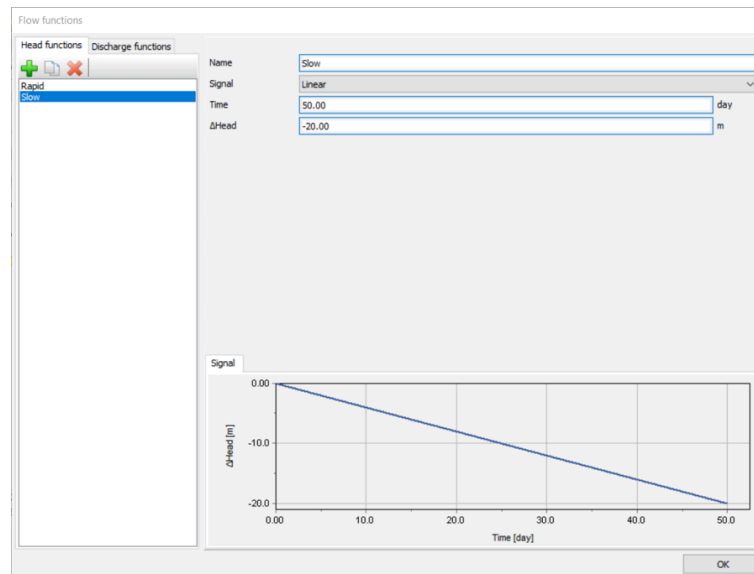

Figure 14–12: The flow function for the slow drawdown case
- e. Click **OK** to close the **Flow functions** window as shown in Figure 14–12 \(p. 226\).